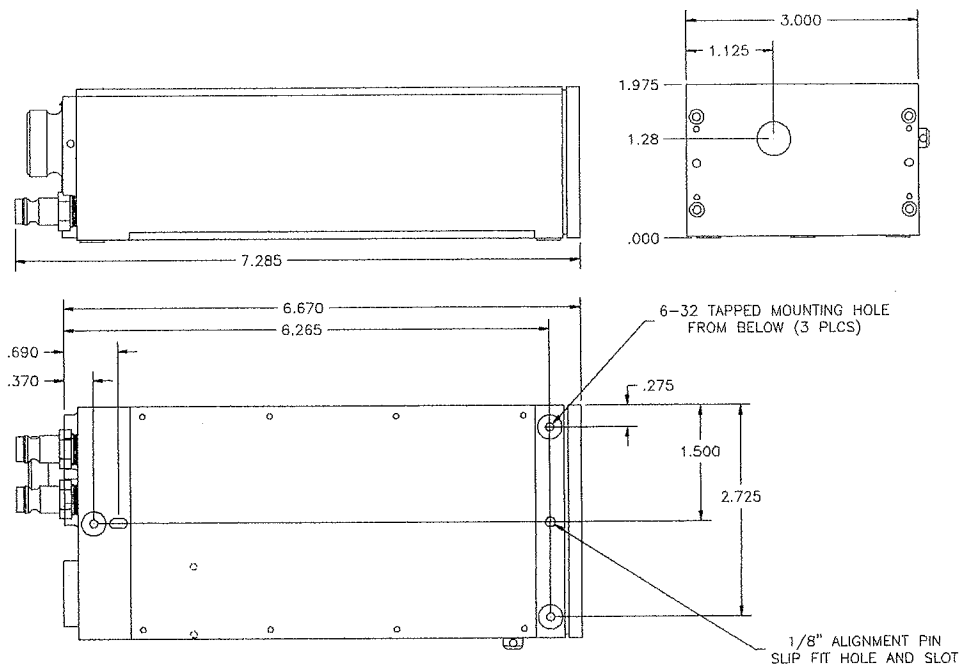

Figure 8: Laser Head Mounting
1. Secure the Laser Head with three (3) 6-32 UNC screws (see Figure 11) to a flat mounting surface. If this method of mounting is used, it is important that the mounting surface be flat, to prevent distortion of the Laser Head (and subsequent misalignment of the resonator). Figure 8 identifies the Laser Head mounting hole pattern.